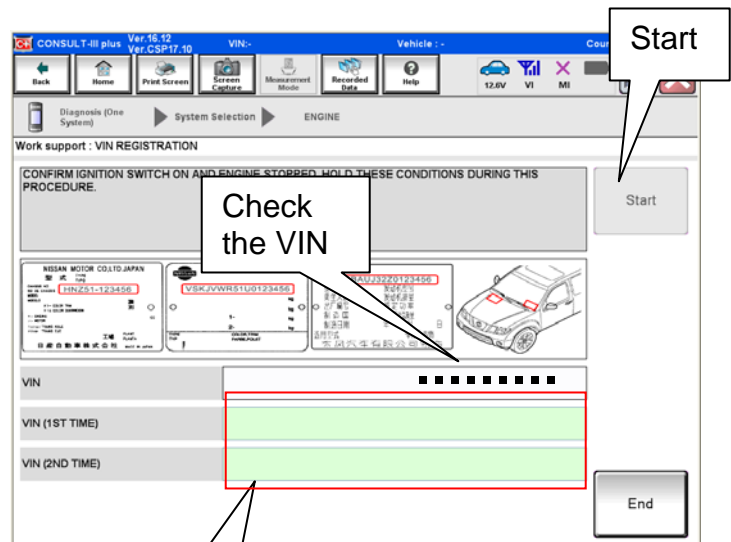

Figure 23a
3. Check the VIN (see Figure 23a):